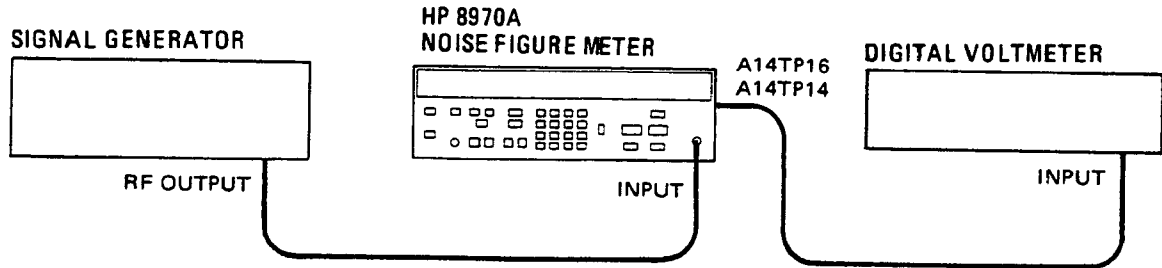

Figure 5-8. Input Power Detector Offset and Gain Adjustment Setup
1. Connect equipment as shown in Figure 5-8. Connect the voltmeter low lead to GND, A14TP14, for a ground reference. Turn on the equipment, and allow the Noise Figure Meter to warm up for one hour.